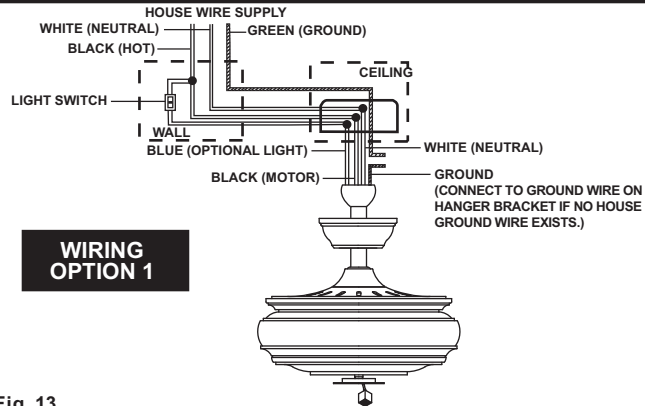

Fig. 13
**Step 3.** Figure 13 & 14 Illustrate the wiring connections using optional wall unit. (Available at your Minka-Aire® Retailer.) **NOTE:** If a light kit is not included with your fan, one can be purchased at your Minka-Aire® Retailer.